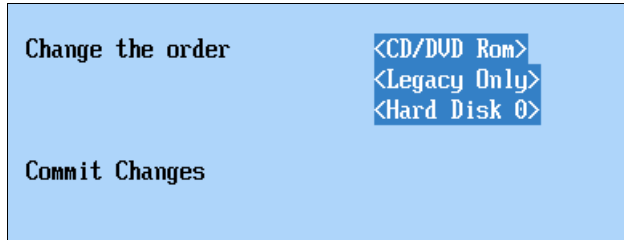

Figure 8-62 Example of a boot order
- c. Select **CD/DVD Rom**, **Legacy Only**, and **Hard Disk 0**, as shown in Figure 8-62, for example, if you are using internal drives that have been configured as an integrated mirror with the onboard RAID controller. If you cannot find these options, the options are already in the boot list.
- e. Select **Change Boot Order**. Change the boot order to look like the boot order that is shown in Figure 8-62.